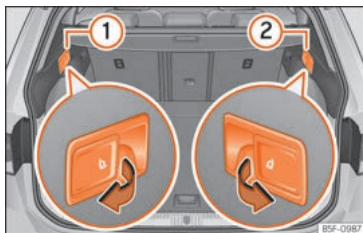

Fig. 164 In the trunk: levers for remote release of the left part ① and right part ② of the rear seat backrest.
- Pull the remote release lever of the left part » Fig. 164 ① or right part ② of the backrest in the direction of the arrow. The released